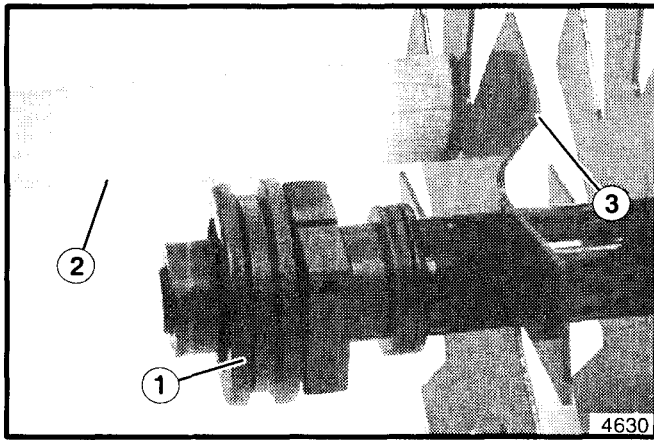

Figure 16. Pillow Block Alignment
6. Install the pillow block with bearing on the shaft. Slide the pillow block on until the outside edge of the block is 5/8" (16mm) from the end of the shaft (see figure 16).
7. The pillow block must also be perpendicular to the shaft. To check this, hold a ruler against the first blade and across the edge of the pillow block (see figure 16). Rotate the pillow block by hand. If the edge of the pillow block does not appear to wobble (move back and forth) the pillow block is perpendicular.